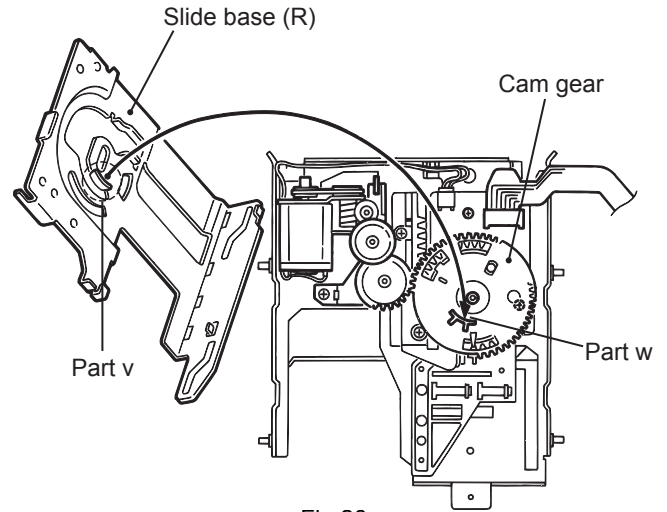
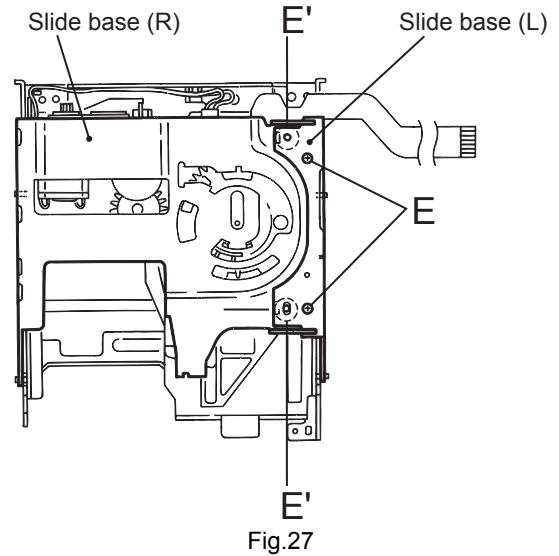

Fig.26
Fig.27
Fit the part v of the slide base (R) to the part w on the inward side of the cam gear rib. (Fig.26)
(10) Reattach the slide base (L) on the slide base (R) while fitting the two pins on another side of the UD base to the slots of the slide base (L) (Fig.26). Make sure the two slots of the slide base (L) are fitted to the two bosses marked E' and tighten the two screws E. (Fig.27)